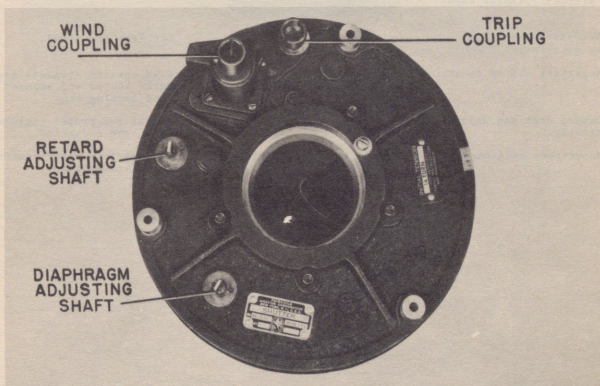

Figure 14 - Shutter
*e. LENS SHUTTER (See figures 14 and 15).*
(1) The lens shutter should be lubricated every two months regardless of how much it is used.
(2) An exceedingly thin film of grease should be applied to the working surfaces of all cams and to the teeth of all gears.
(3) A very small drop of oil should be applied to all pivots and bearings with a fine wire.
(4) Oil or grease should never be applied to the diaphragm leaves or the surfaces of the shutter leaves. The shutter leaves may be cleaned by rubbing them carefully with a cotton pencil or soft cloth which has been